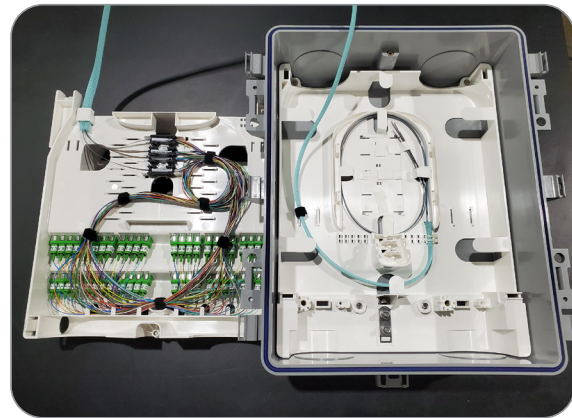

Figure 37
5. Place to the side of the box in a safe area. DO NOT “hang” or leave mesh sheathing under tension, as there is fiber inside (**Figure 37**).